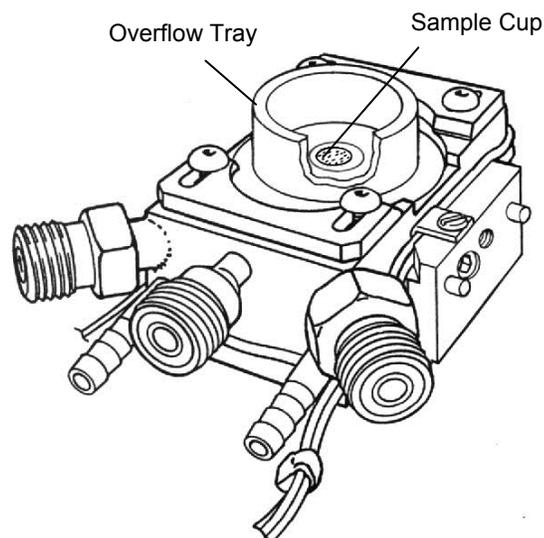

Figure 15 • Filling the Cup
- Place a sample screen into the sample cup and locate the plastic overflow tray over the sample cup (Figure 15).